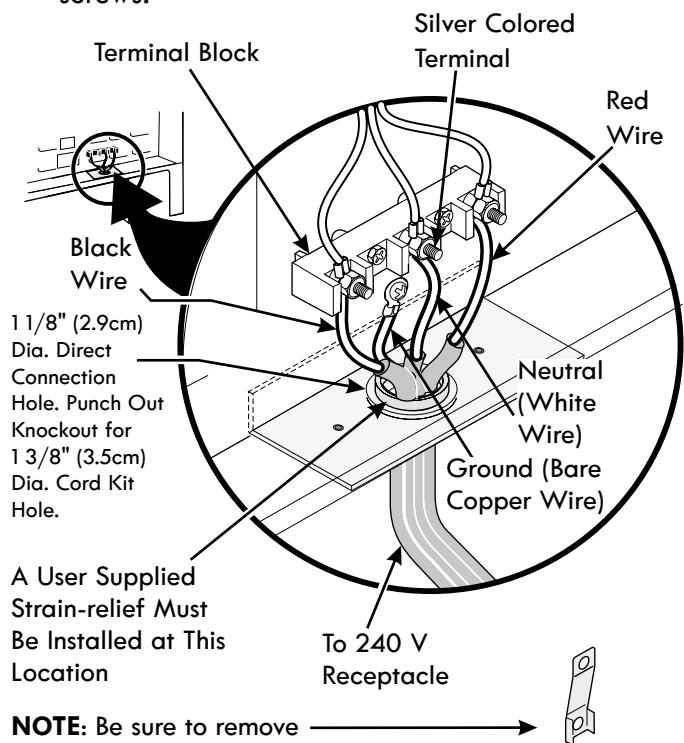

**Figure 8**
If local codes permit connection of the frame grounding conductor to the neutral wire of the copper power supply cord (see Figure 8):
2. Using the nuts supplied in the literature package, connect the neutral of the copper power supply cord to the center silver-colored terminal of the terminal block, and connect the other wires to the outer terminals. Match wires and terminals by color (red wires connected to the right terminal, black wires connected to the left terminal) (see Figure 8).